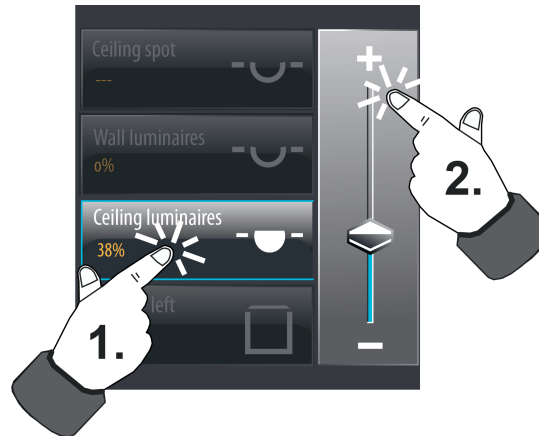

Figure 19: Example of a selection operation (here: Function "Dimming brightness value")
This is different in the case of a selection operation. In this case, an operating area is also displayed in the device display next to the display surface of the element (figure 19). Operation requires the selection of an element (1) that can then be operated (2.). Depending on the number of functions available in the room or function unit, up to 4 selectable elements can be displayed simultaneously during a selection operation. The display grid also adapts itself depending on the number of elements. In the case of 2 or more visible elements, the unselected elements remain visible in the display but are greyed out and can therefore not be linked to the operating area. It is possible to change the controllable function at any time by touching another display element with your finger.